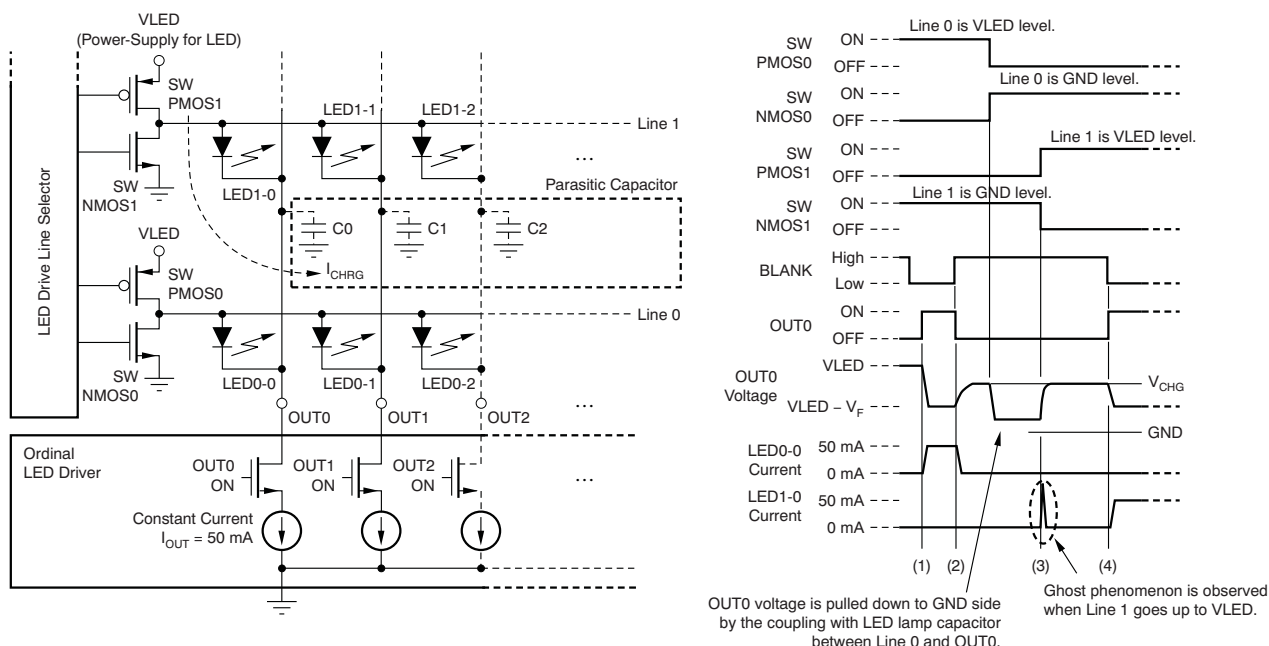

Figure 33. LED Ghost-Lighting Phenomenon Mechanism
The internal pre-charge FET can prevent ghosting of multiplexed LED modules. One cause of this phenomenon is the charging current for parasitic capacitance of the constant current output line and driver through the LED. One of the mechanisms is shown in Figure 33.
In Figure 33, the constant current driver turns LED0-0 on at (1) and off at (2). After LED0-0 is turned off, OUT0 voltage is pulled up to V_{CHG} by LED0-0. This OUT0 node has some parasitic capacitance (such as the constant current driver output capacitance, and the board layout capacitance shown as C0-2). After LED0-0 turns off, SWPMOS0 is turned off and SWNMOS0 is turned on for LINE0, then LINE0 is pulled down to GND. Because there is a parasitic capacitance between LINE0 and OUT0, OUT0 voltage is also pulled down to GND. After that, SWPMOS1 is turned on for next line (LINE1). When SWPMOS1 turns on, OUT0 voltage is pulled up from the ground voltage to $V_{LED} - V_F$. The charge current (I_{CHRG}) flows to the parasitic capacitor (C0) through LED1-0, causing the LED to briefly turn on and creating the ghosting effect of LED1-0.